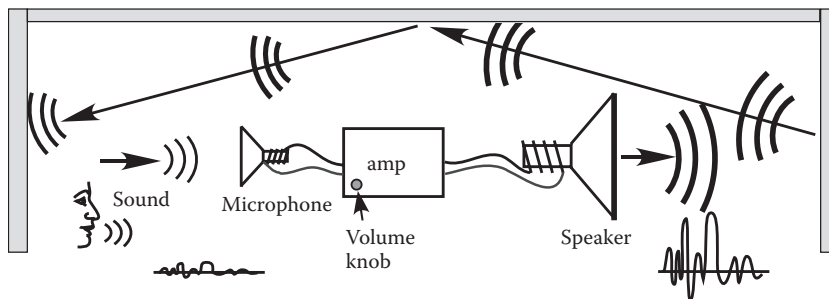

FIGURE 14.12 Feedback in a PA system. A person whispering acts analogously to spontaneous emission in a laser to start the self-oscillation of the system.
An analogy to illustrate this high sensitivity to the pump power can be seen in the behavior of a public address (PA) system. A PA system consists of a microphone, an amplifier, and a speaker, as in **Figure 14.12**. You may know that if you turn up the volume (gain) on the PA's amplifier just a little too high, you will hear an uncontrolled, very loud squeal. This is caused by feedback—allowing the sound from the